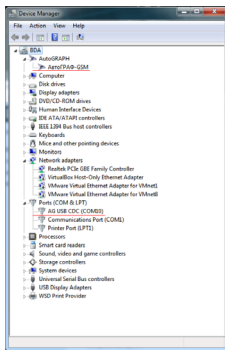

Figure 5.
8. Drivers for the AutoGRAPH-GSM are successfully installed. The device is ready to operate with troubleshooting utilities, dispatch software and other applications (Fig.5).